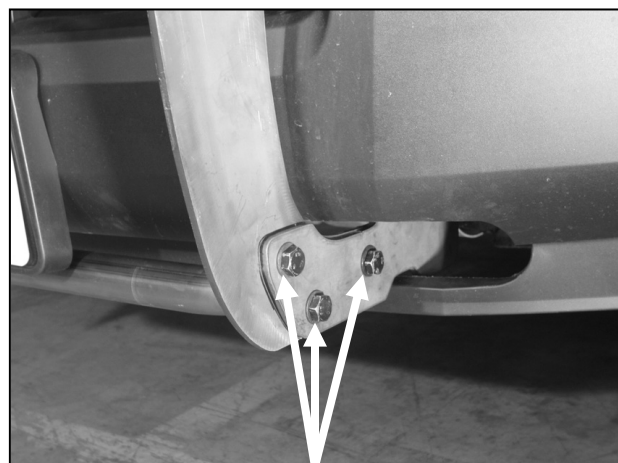

Figure 4
9. With help place Grille Guard up to front of vehicle on the inner side of Mounting Brackets. Attach Grille Guard to Mounting Brackets using the included (6) 12-1.75mm x 30mm Hex Head Bolts, (6) 12mm Nylock Nuts, and (12) 12mm Flat Washers (Figure 4). Do not tighten at this time.